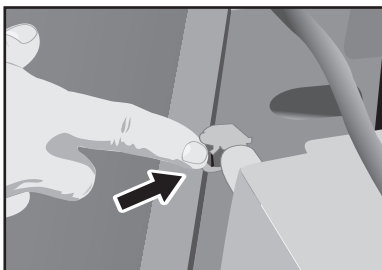

Fig.38
6. To release (disconnect) the external water tank, simply push down the (silver) "release" button located on top of the cabinet quick connect, grasp the recessed handles on each side of the tank, lift and pull the tank towards you. *See fig.38, 39*